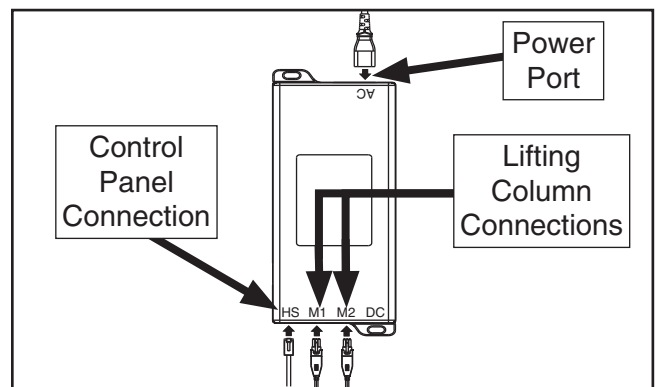

Figure 9. Installing cables.
9. Connect control panel cables to control box as shown in **Figure 9**.